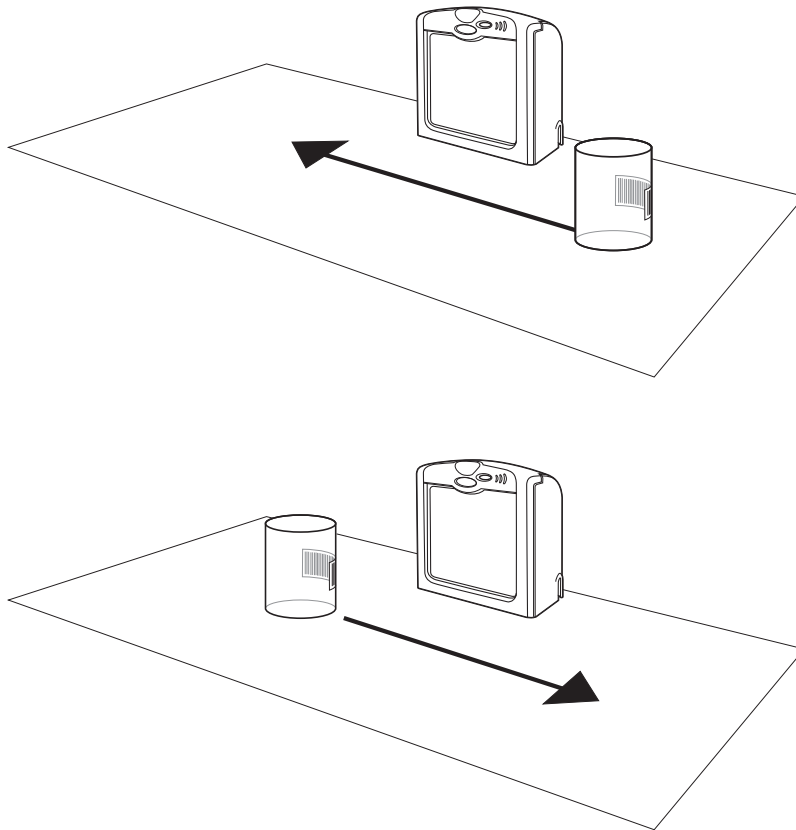
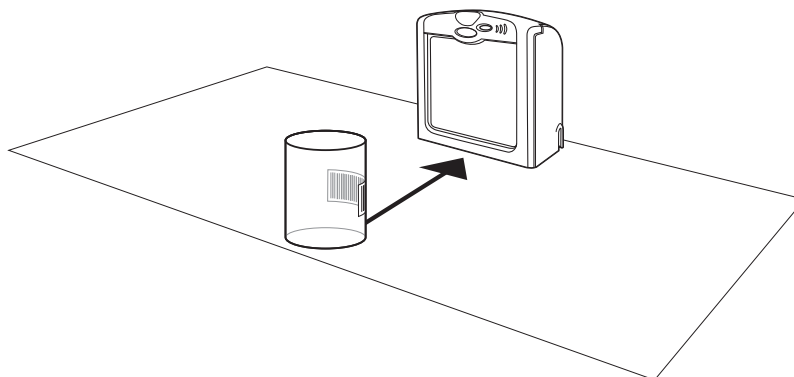

Figure 2-7 Scanning a Bar Code - Swipe Method
Figure 2-8 Scanning a Bar Code - Presentation Method
3. Move the item through the active scan area in the direction of the arrows (swipe scanning, see Figure 2-7), or place the item in front of the scanner (presentation scanning, see Figure 2-8). Ensure that the scan lines cross every bar and space of the symbol.